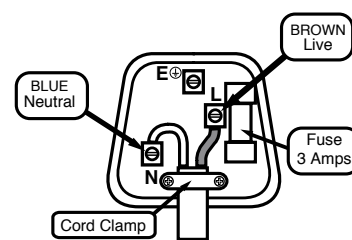

Fig 1
- Each head unit is supplied with 1m of cable. The cable from the junction box to the transformer lead and plug 2.5m long. See Fig 1 for example layout.
3. Attach heads in position using either the supplied screws or self adhesive pads. If using the screws to fix the heads you will need to separate the head from the frame. Carefully push on the rear of the LED unit, towards the edge. See Fig 1. There is a knock out on one edge so the cable can be laid flat to the surface. Screw the frame to the mounting surface ensuring the cable is passing through the knock out. When the frame is secure, carefully push the LED unit back into position.
4. Fix junction box to mounting surface using supplied adhesive pad. Connect all heads to the junction box, route loom (B) to desired power source (240V mains socket or fused outlet socket - see connection section below). Take care not to create a trip hazard. Cables can be tidied and secured to the mounting surface using tape or small clips (not supplied).
5. Connect loom to transformer (C). Fix transformer to surface (secure with supplied screws). Check all connections are tight.